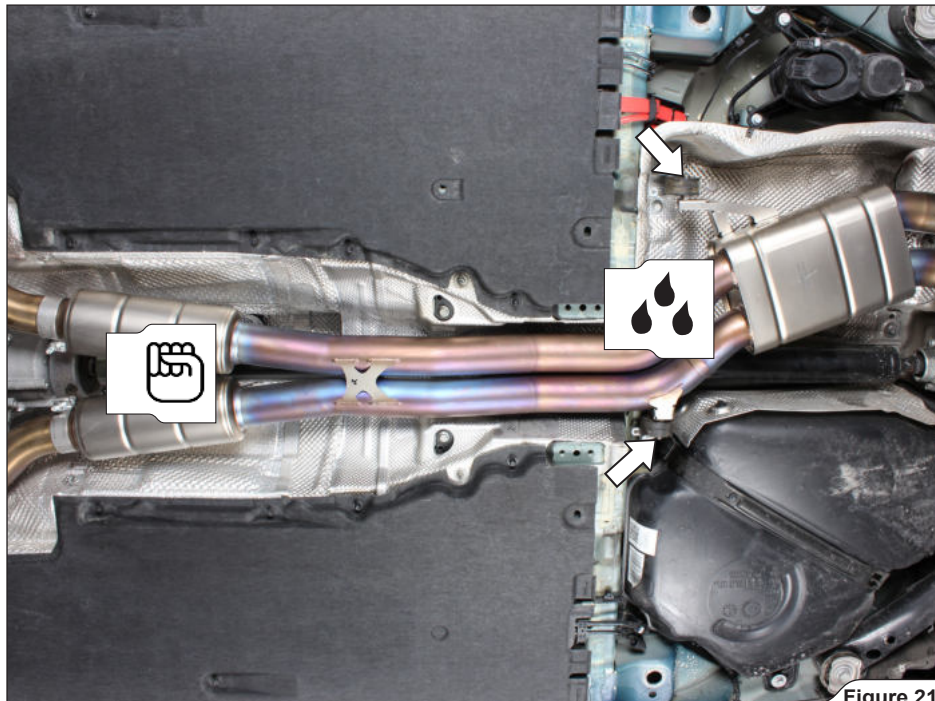

Figure 21
- Slide the collector all the way onto the link pipes outlets, attach the collector's bracket pins to the stock rubber brackets and hand tighten the clamps (**Figure 21**).